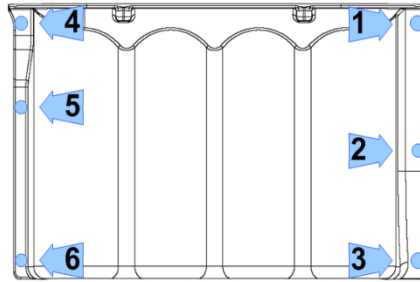

Figure 17 - Capacitor Cover Torque Sequence
- Place the long fastener (M5X20) and flat washer in position number three (3) shown in Figure 17 – Capacitor Cover Torque Sequence. Follow the sequence twice. The first time, only tighten the fasteners half way down to allow for adjustment. Then tighten all Capacitor Cover fasteners according to the sequence in Figure 17 Capacitor Cover Torque Sequence. Torque all Capacitor Cover fasteners to 13 in.lb. on the second pass.